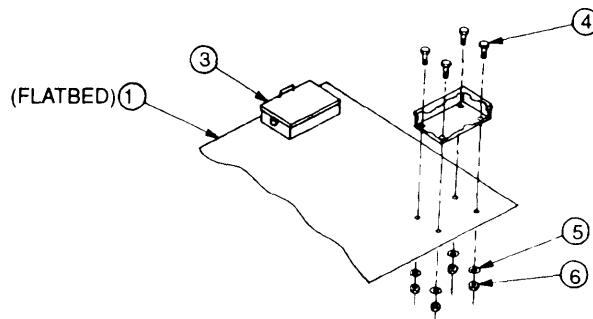

Figure 4-7. Accessories Stowage Box Installation.
- (1) Place storage boxes (3) on the two existing 4-hole patterns in the flatbed trailer (1) (forward curb-side and roadside areas). See Figure 4-7.
- (2) Attach boxes to flatbed using four bolts (4), four washers (5), and four nuts (6).